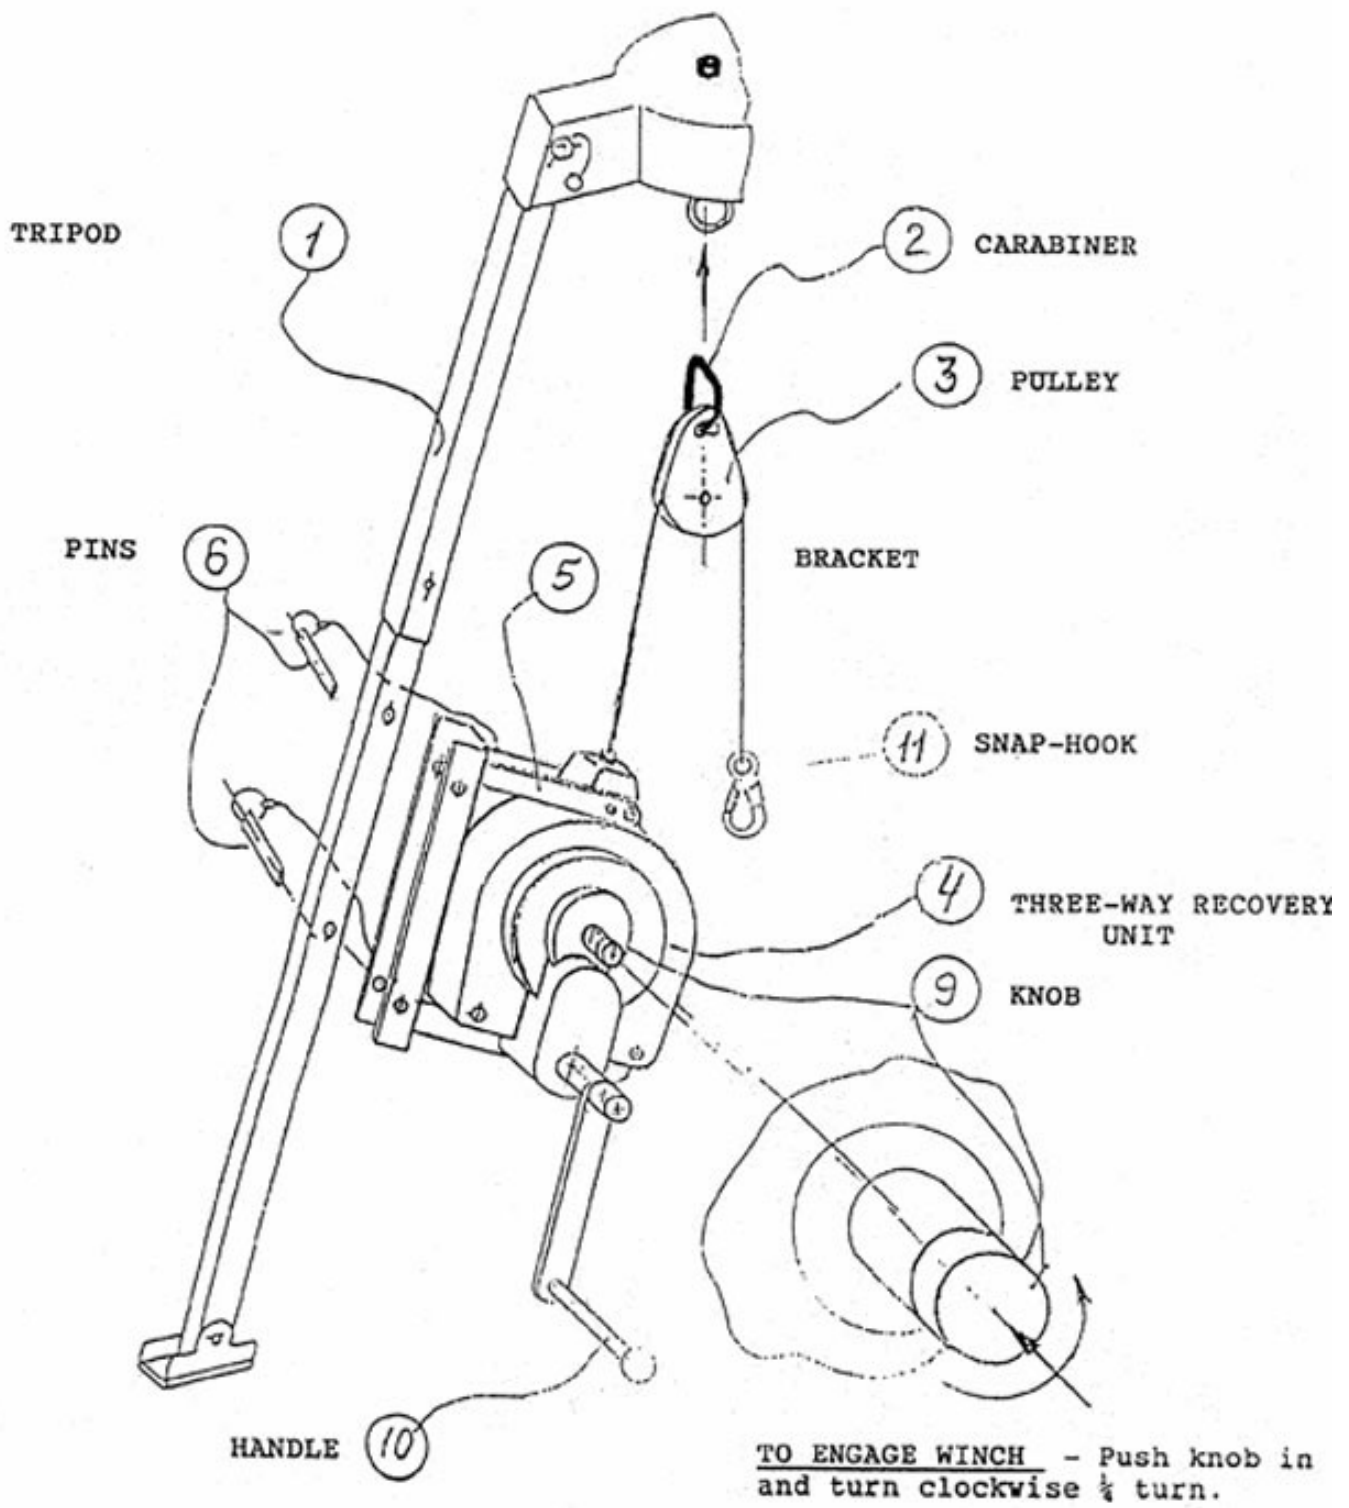

Figure 4. Three-Way Rescue and Recovery Unit - Installation Procedures
1. Attach the Three-Way Rescue and Recovery Unit (Figure 4) to the inside of one of the Tripod legs (1) making sure the unit's bracket is aligned so that both locking pins (6) can be fully pushed in through the leg, firmly securing the unit. Lifting the unit by the winch handle (10) and resting the unit on one's knee will enable the user to easily insert locking pins. Attach a carabiner (2) (narrow end up) to the center eyebolt of the Tripod head. Pull out enough cable from the unit to extend the end past the carabiner. Place the cable through a pulley (3) (pulley halves will slide apart to accommodate cable) and attach the pulley to the carabiner. Make sure that both halves of the pulley are attached to the carabiner and that the cable operates freely in the pulley.
Three-Way Rescue and Recovery Unit (refer to Figure 4)
THREE-WAY RESCUE AND RECOVERY OPERATION (refer to Figure 4)
Three-Way Recovery Unit - Rescue (Retrieval) Operation (refer to Figure 4)